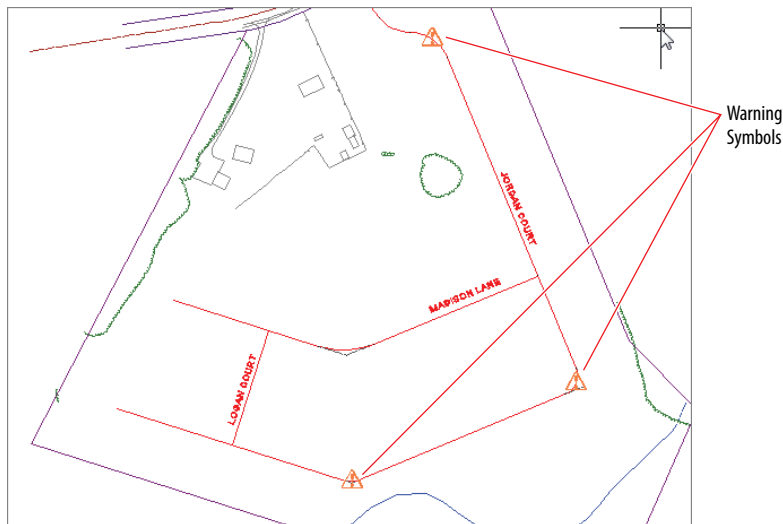

FIGURE 5.16 Warning symbols indicating design check set violations within the alignment
4. For **Design Seed**, type **25 (40)**, and press Enter.
8. Click **OK** to close the Alignment Properties dialog box. Press Esc to clear the grips on the alignment. You should see three yellow warning symbols in the drawing, as shown in Figure 5.16.